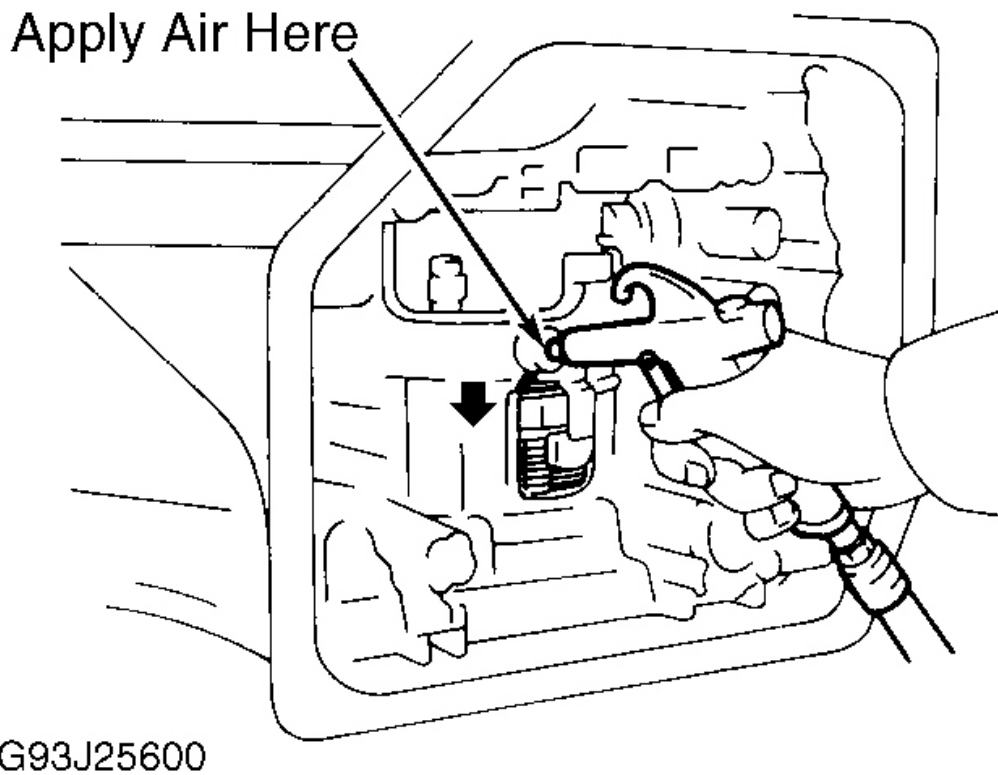

Fig. 20: Checking & Removing 2nd Brake Piston
11. Remove front planetary gear. Remove bearings and races from both sides of planetary gear. Remove sun gear, sun gear input drum, thrust washer, 2nd brake hub and No. 1 one-way clutch. Using compressed air, confirm 2nd brake piston operates smoothly. See **Fig. 20**. Remove 2nd coast brake band guide.
15. Using appropriate puller, remove counterdriven gear with thrust bearing. Remove countershaft assembly. Remove thrust bearing and race from countershaft. Remove underdrive clutch drum and anti-rattle clip. Using compressed air, confirm underdrive brake piston operates smoothly. See **Fig. 20** . Remove oil seal rings. Using appropriate press and adapter, carefully remove underdrive brake snap ring.
16. Remove flange, plates and discs. Note number and location of components. Remove brake return spring. Using compressed air, remove underdrive brake piston. See **Fig. 20** . Using appropriate compressor, gradually compress spring assembly and remove snap ring. See **Fig. 21** .